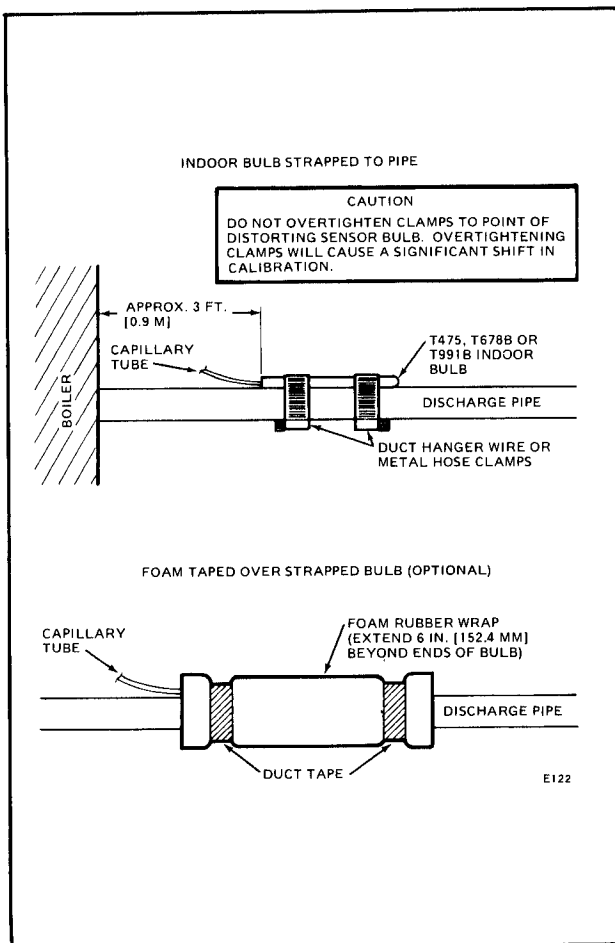

FIG. 10—STRAP-ON MOUNTING OF T475A INDOOR BULB ON A BOILER DISCHARGE PIPE.
1. Secure controller bulb to pipe with duct hanger wire or metal hose clamps (Fig. 10, top).
2. Cover bulb and pipe with foam rubber insulation extending at least 6 in. [152 mm] beyond both ends of bulb (Fig. 10, bottom).